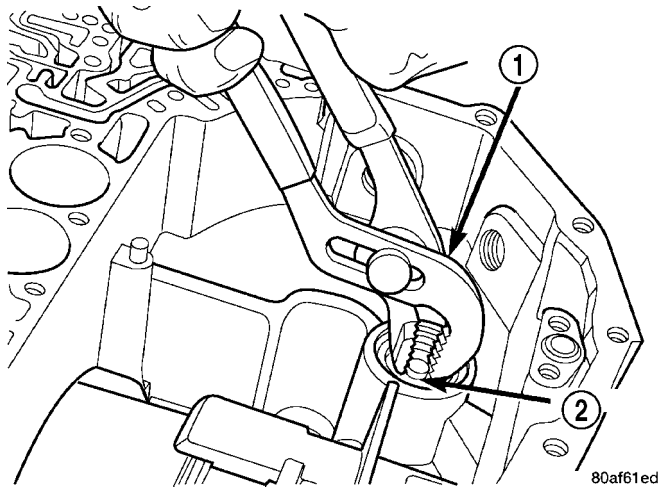

Fig. 150 Install Low/Reverse Accumulator Plug (Cover)
(60) Install low/reverse accumulator plug (Fig. 150).